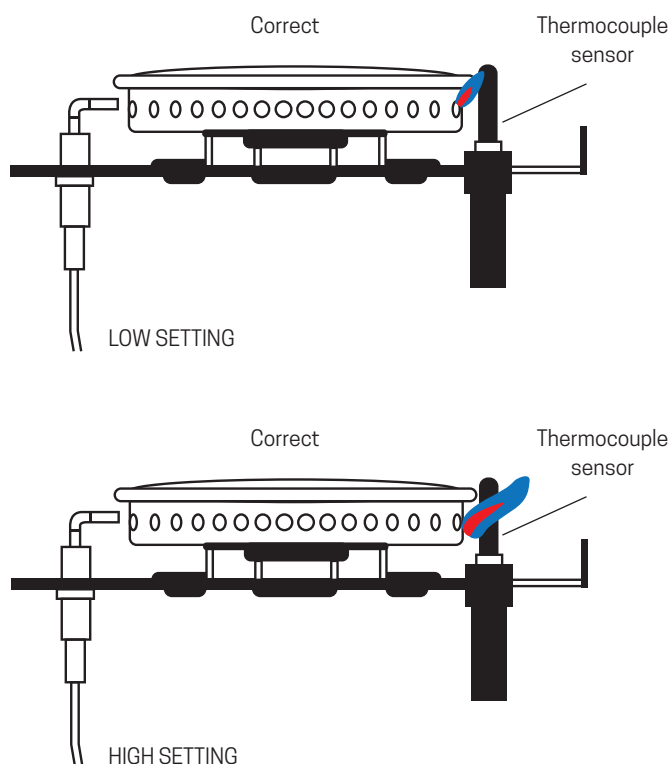

Figure 1
- ✓ Refer to Fig. 1 to see how the FFD should be positioned.
- ✓ Replace with the new FFD and tighten the Hex nut at the top of the FFD sensor in a clockwise direction (Fig. 4). The sensor needs to be in the flame at all times as per (Fig. 1).